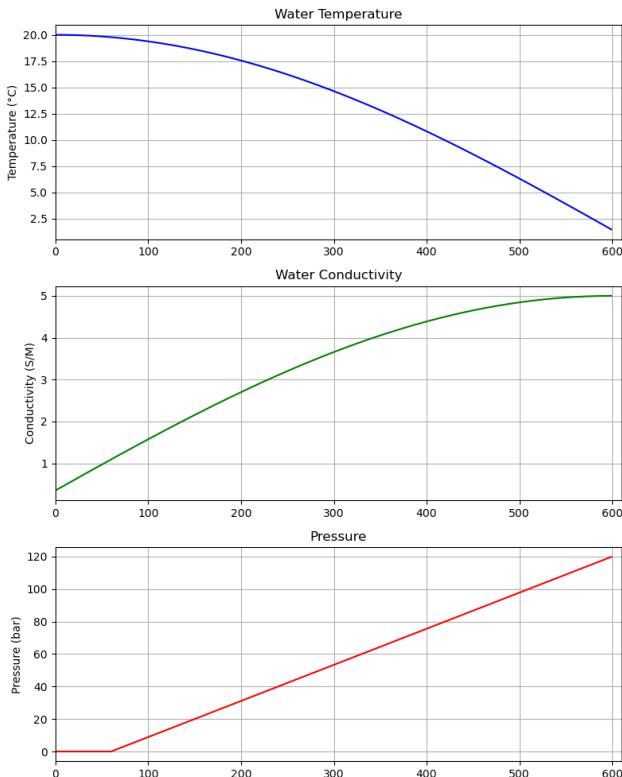

Figure 9.1: Example B: simCTD_synthetic.py's simulated CTD data
Figure 9.1 is just one example of a type of data possible can send. Using simCTD_synthetic.py, you could send any values desired to the science computer and thus external processor.
2. Then we approximate changing ocean conditions following a typical depth profile. Figure 9.1 (left) shows the three values that are sent to the glider. The rate of change of temperature and salinity is approximated with cosine functions, while pressure assumes a moment of initialization at the surface before a linear downward trajectory. In this, we assume the change is over ten minutes, resulting in 600 data values, as seen on the left.